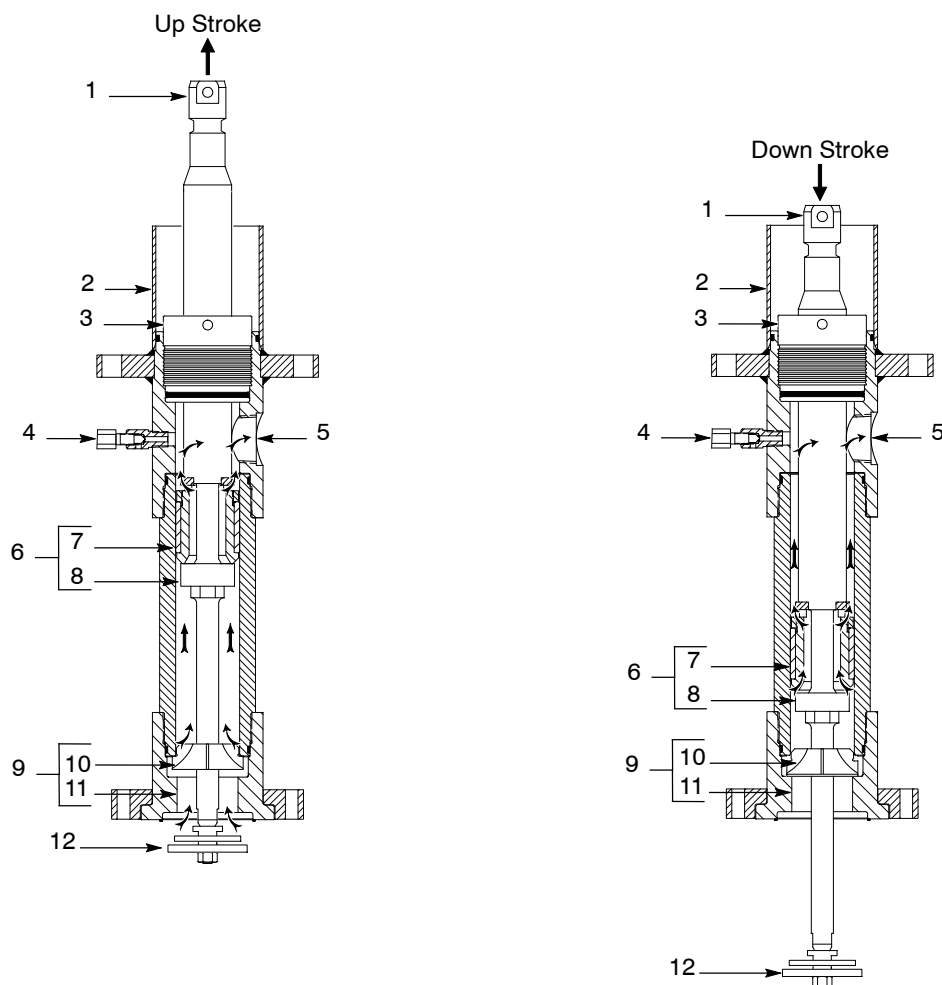

Figure 2 48:1 Pump
See Figure 2. The shovel (12) moves up and down with the plunger (1) and forces material into the hydraulic section. The hydraulic section pressurizes the material and forces it out of the pump.